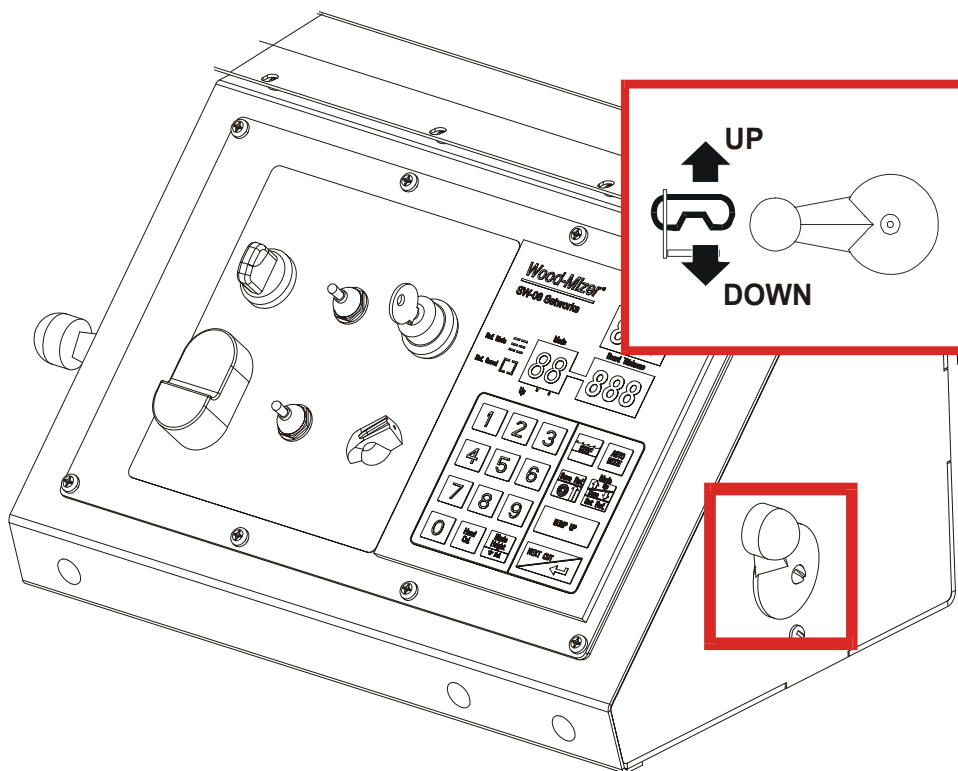

FIG. 2-13
**See Figure 2-13.** The up/down switch is located on the right side of the control panel. Push the switch up to raise the cutting head; push the switch down to lower the cutting head. Hold the switch in position until the cutting head reaches the desired height, then release..